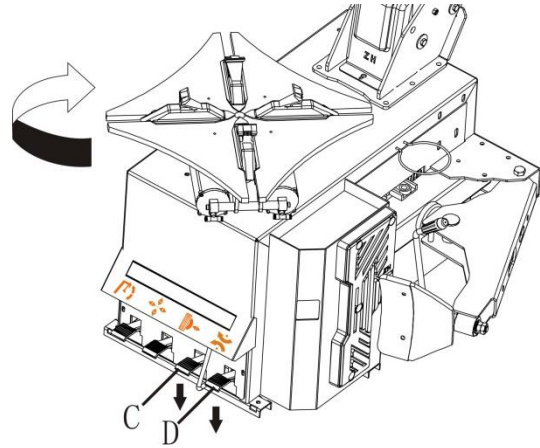

Fig. 11
- Check if the machine is connected properly by pressing the turntable control pedal (D, fig.11), the turntable should turn clockwise. This test is very important
- Now test the bead breaker by pressing the bead breaker control pedal (C, fig.11). Do this 3-5 times and let someone else watch if a drop of oil is injected in the regulator on the back of the machine (F, fig.10). If this is not the case, adjust with adjusting screw (E, fig.10)